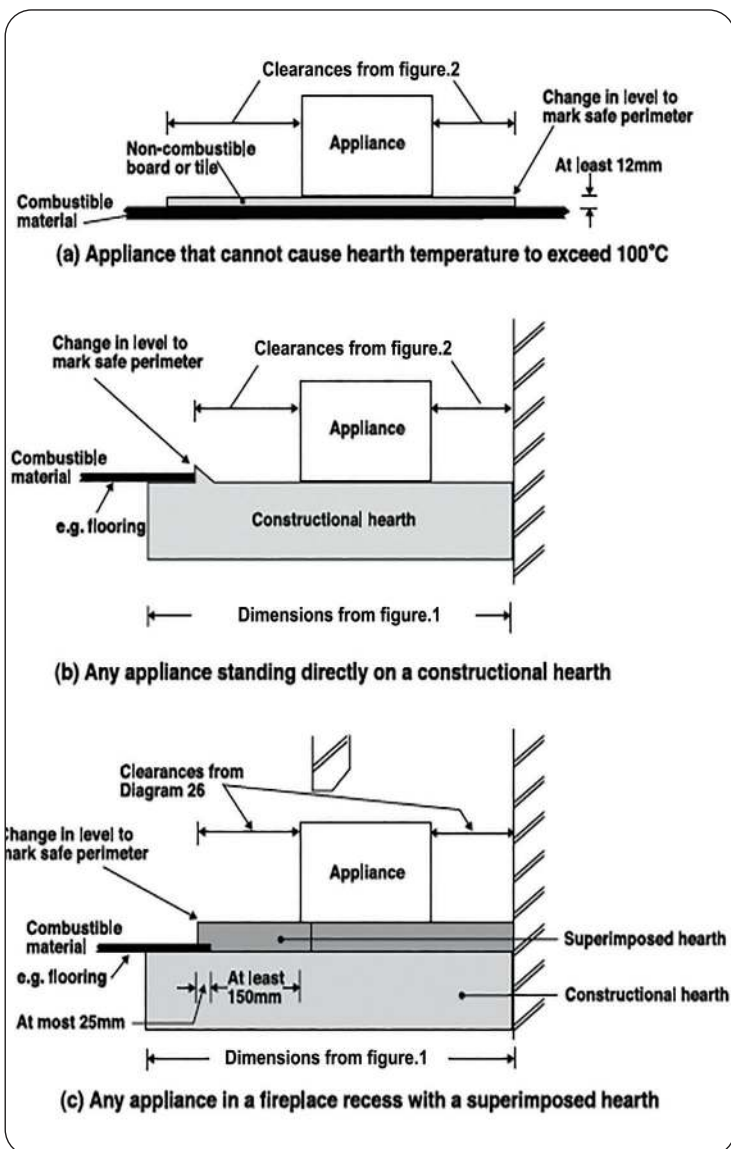

fig.3. Ways of Providing Hearths
**A:** Hearths made of non-combustible board / sheet material or tiles at least 12mm thick (fig.3), if the appliance is not to stand in an appliance recess and has been tested to an applicable appliance standard to verify that it cannot cause the temperature of the upper surface of the hearth to exceed 100°C; or